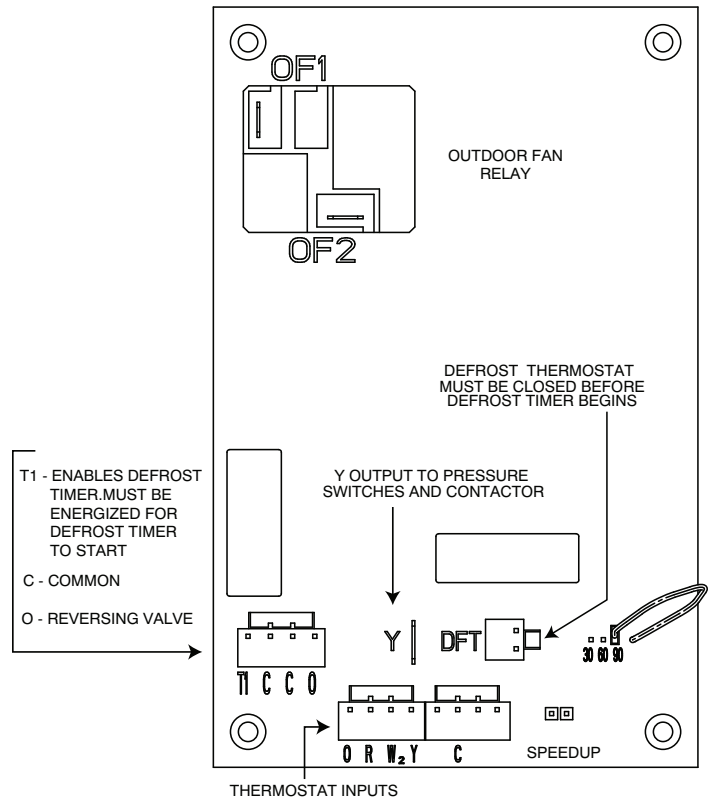

Fig. 13 – Defrost Control
2. Disconnect outdoor fan motor lead from OF2 on control board (see Fig. 13). Tape lead to prevent grounding.